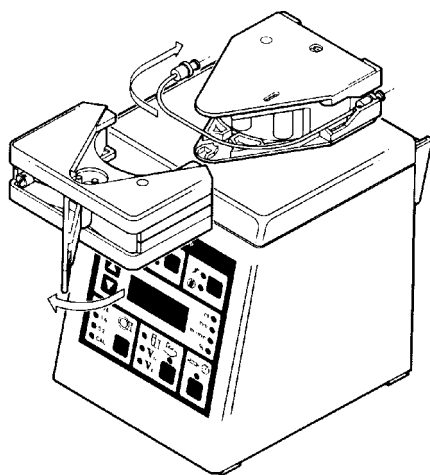

Fig. 5.1. Tubing installation.
1. Referring to Figure 5.1, pull the platen cam lever away from the pump head to unlock the platen and slide the platen away from the pump head frame assembly, exposing the rollers.